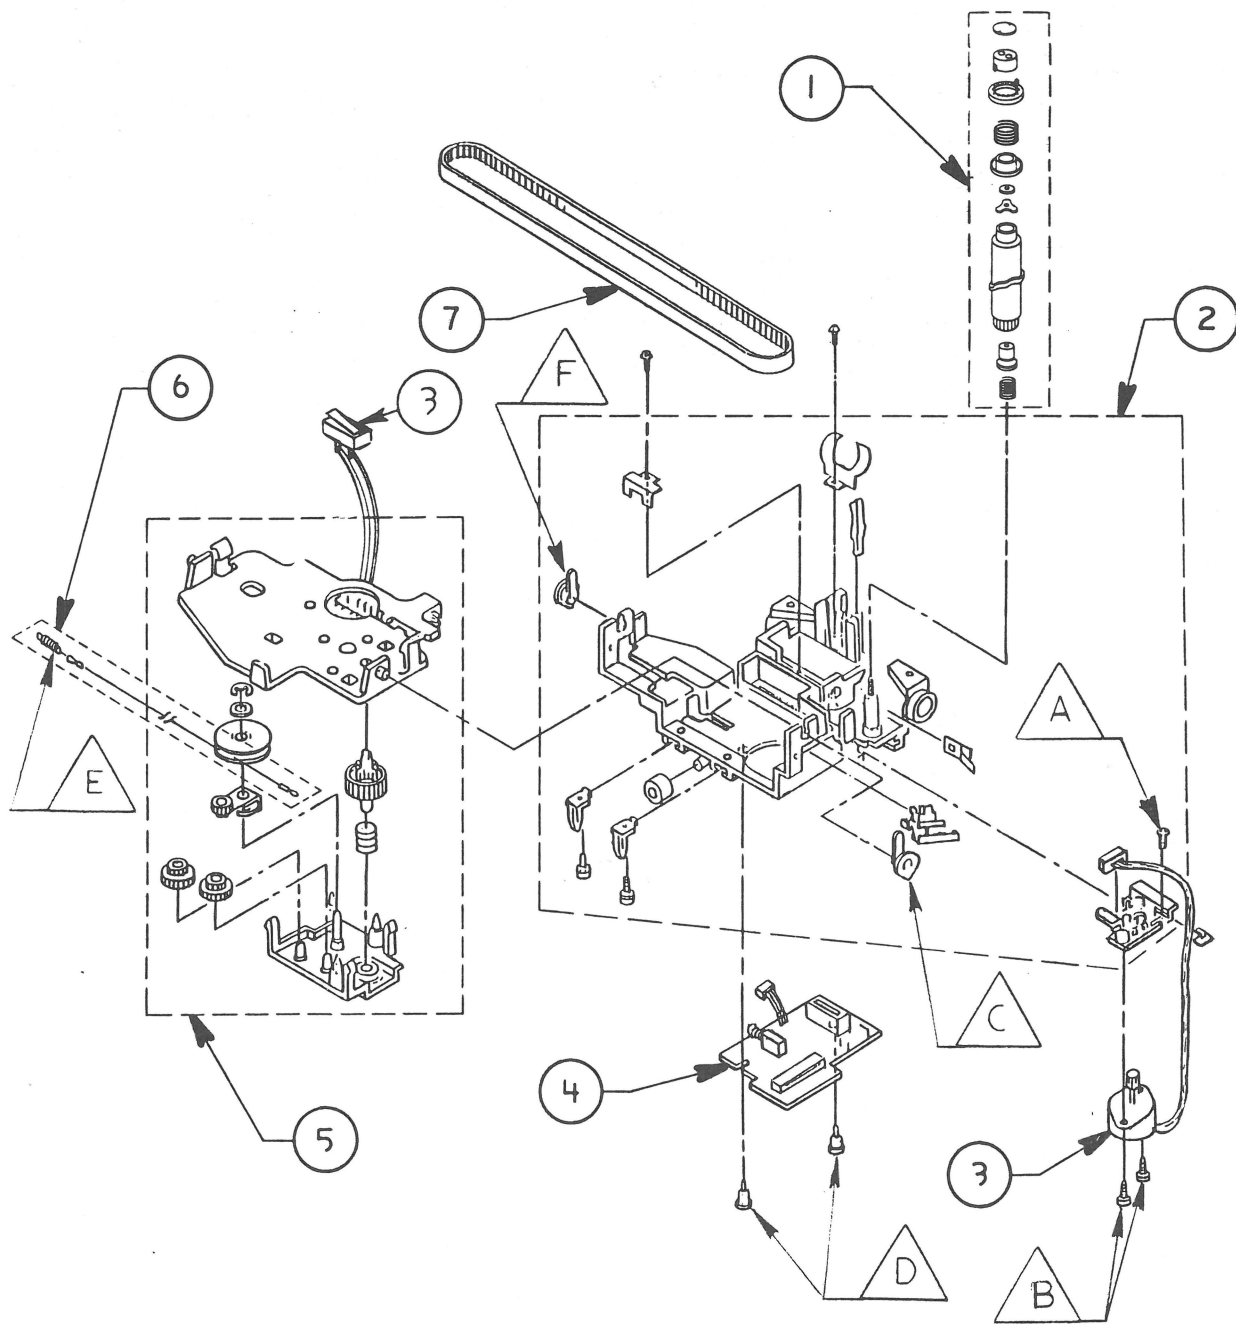

FIGURE 5
□ CARRIER (Figure 5)
The following screws, e-clips, etc., are used in the parts shown in Figure 5: